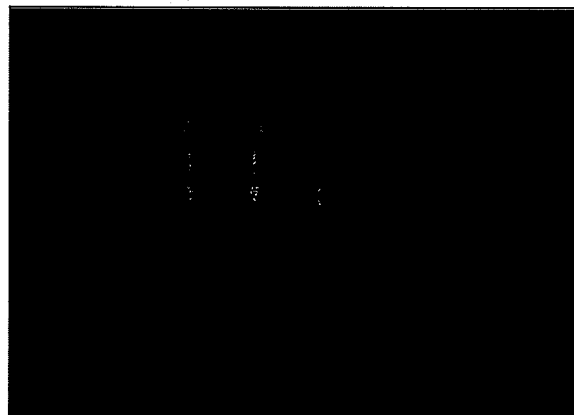
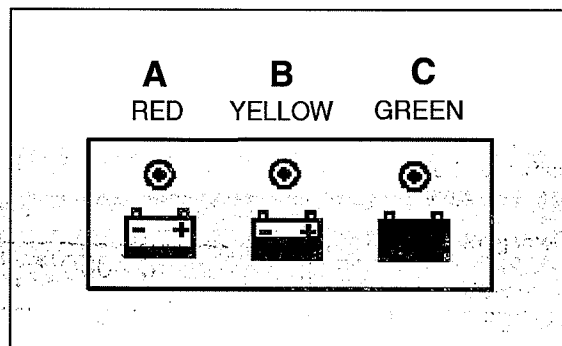

Figure 6
Figure 6A
4. Observe indicator light to ensure the charging process has started (see figure 6, A - Red, B - Yellow, C - Green). For color indications see figure 6A.
2. Observe indicator light to ensure the charging process has started (see figure 6, A - Red, B - Yellow, C - Green). For color indications see figure 6A.